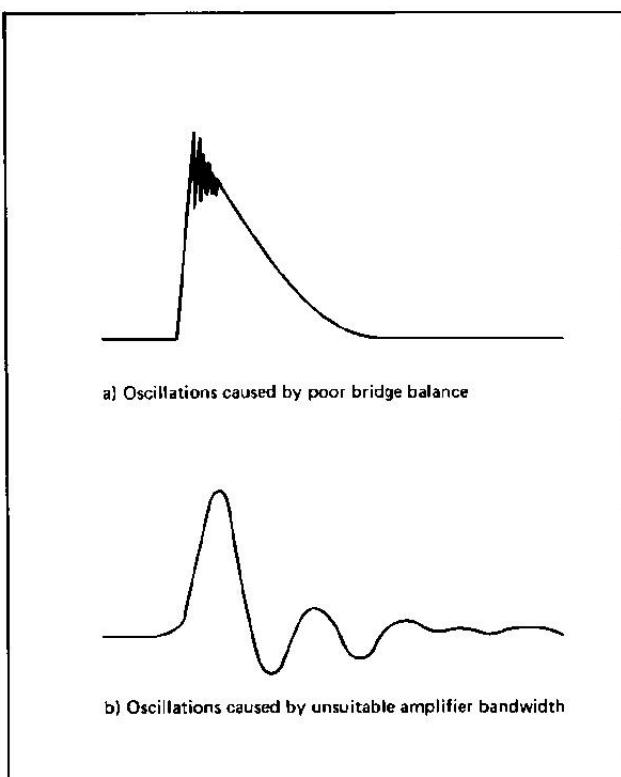

Fig. 10. Incorrect Calibration Curve.
4. The last adjustment should be carried out during a measurement at the proper flow velocity. Fig. 10 shows examples of incorrect square-wave response.